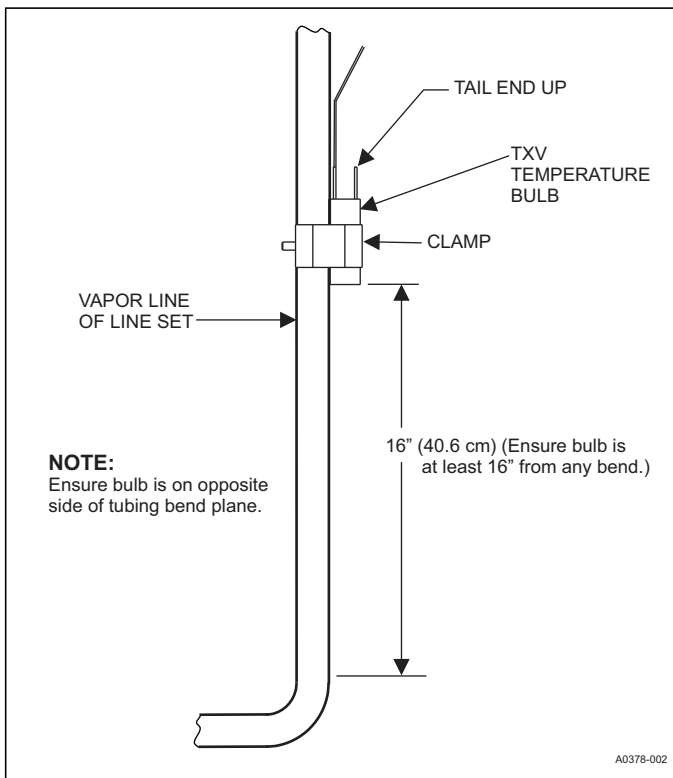

FIGURE 8: Vertical Temperature Bulb Orientation
- b. If bulb installation is made on a vertical run, locate the bulb at least 16" (40.6 cm) from any bend, and on the tubing sides opposite the plane of the bend. Position the bulb with the tail of the bulb at the top, so that the bulb acts as a reservoir. See Figure 8.